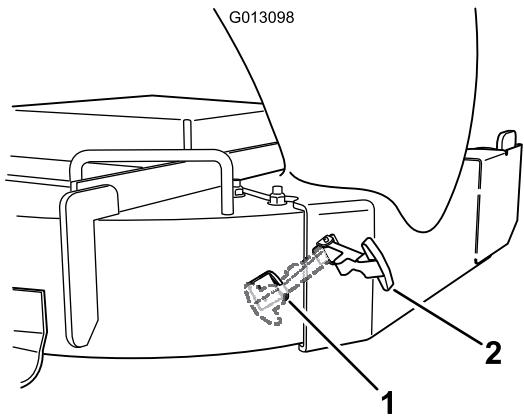

Figure 12
8. Hook the flexible latch on the chute to the retaining clasp welded to the side wall of the mower deck (Figure 12).